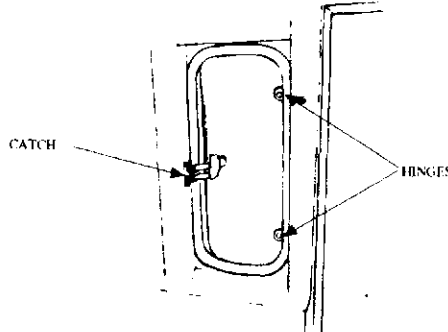

Figure 1-17 Rear Side Window
96. Rear Side Windows (Fig. 1-17)